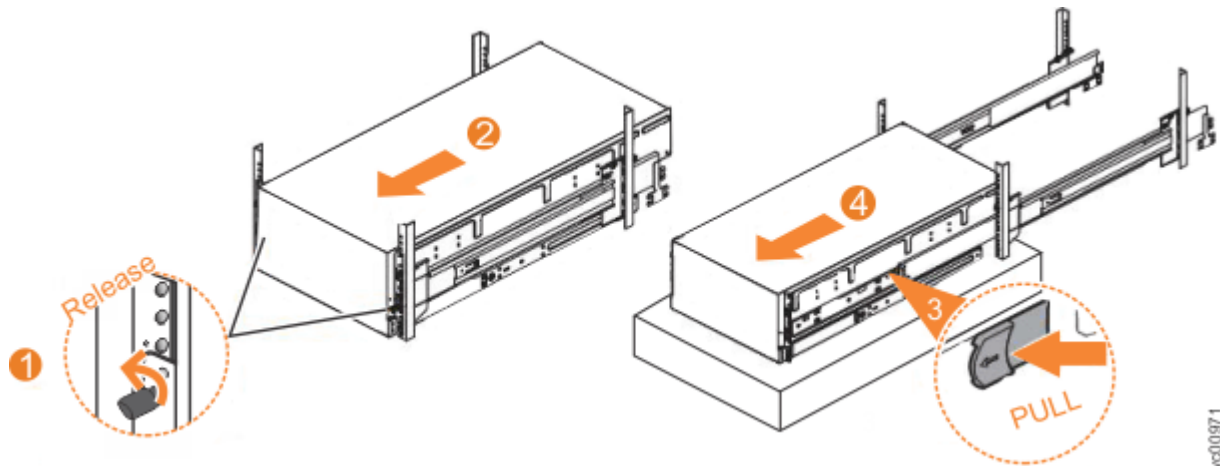

Figure 119. Removing the 5U expansion enclosure from the rack
1. Loosen the locking thumb screws (1) on the front of the enclosure, as shown in Figure 119 on page 172.
2. Carefully slide the enclosure forward out of the rack (2), as shown in Figure 119 on page 172.
3. Locate the left and right blue release tabs near the front of the enclosure. Pull both release tabs forward to unlock the drawer mechanism (3) in Figure 119 on page 172).
4. Slide the enclosure and inner rail member out of the rack (4) in Figure 119 on page 172).